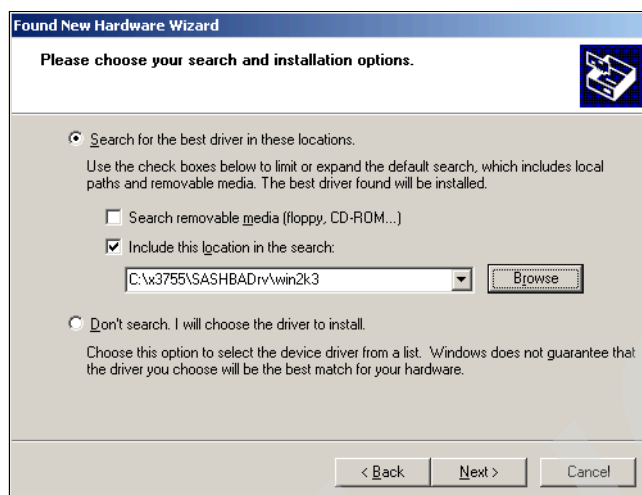

Figure 16-4 Specifying the directory location
3. In Figure 16-4, we select **Search for the best driver in these locations**, check the box **Include this location in the search**, and enter the directory where the driver code resides as the only location to be searched. This speeds up the installation, as it prevents other directory paths from being searched unnecessarily.